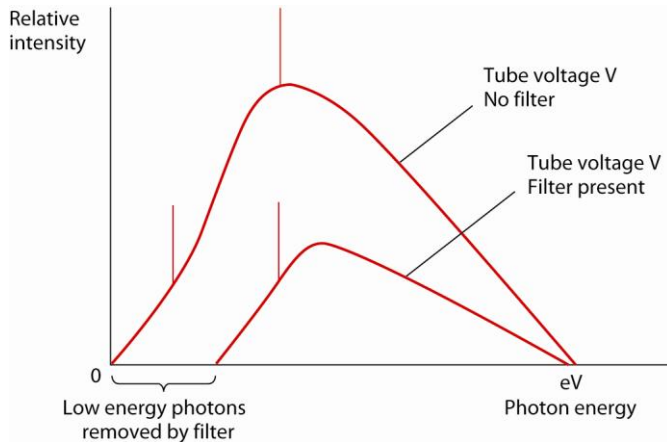

Figure 4 Using metal filters
- a **metal filter** between the X-ray tube and the patient is used to filter out low energy X-rays which would otherwise be absorbed by tissue. The filters need to be made of a metal with a high atomic number such as copper, tin or lead. Figure 4 shows the effect on an X-ray beam of using a metal filter in the path of the beam.